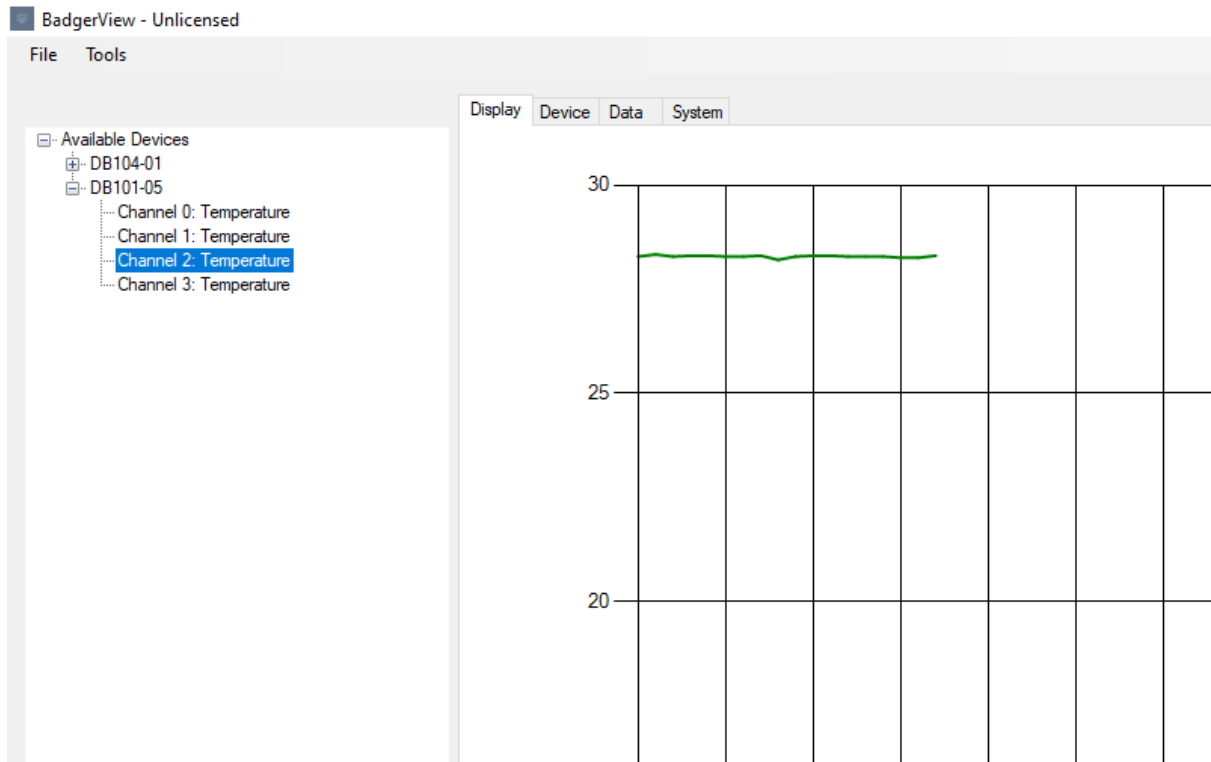

Figure 9: Data channel acquisition
3. BadgerView will request data for the selected channel from the device at the sampling rate set in the System tab. Data acquired will be displayed on the data chart, as shown in Figure 9.